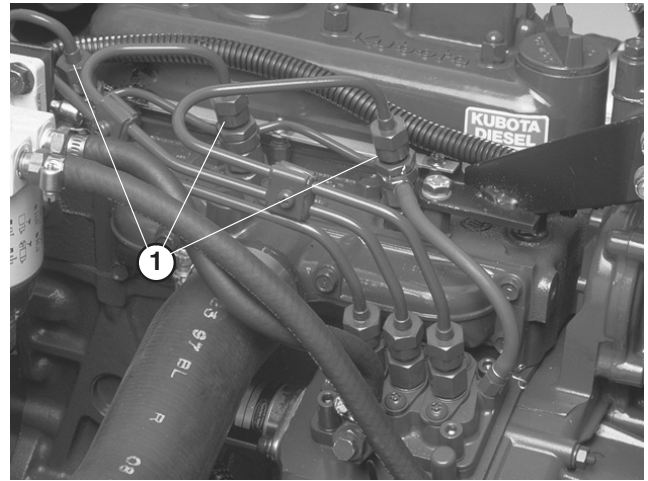

Figure 52
1. Loosen the pipe connection to the No. 1 nozzle and holder assembly (Fig. 52).